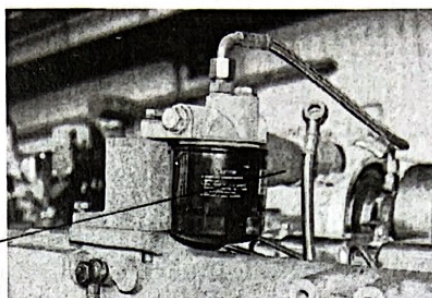

Fig3-23 Turbocharger Filter Element
6.2.1 Replace filter element of the turbocharger: dismount oil filter with special purpose tools. Daub a little bit oil on sealing ring. And then make the new filter be installed firmly (see Fig3-23).